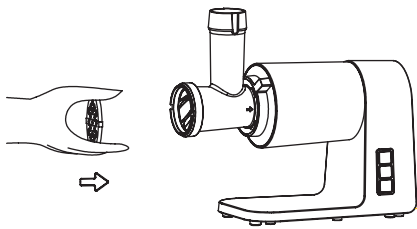

Figure 5.
4. Place the desired cutting plate next to the cutting blade, fitting protrusions into the slots (fig. 5).